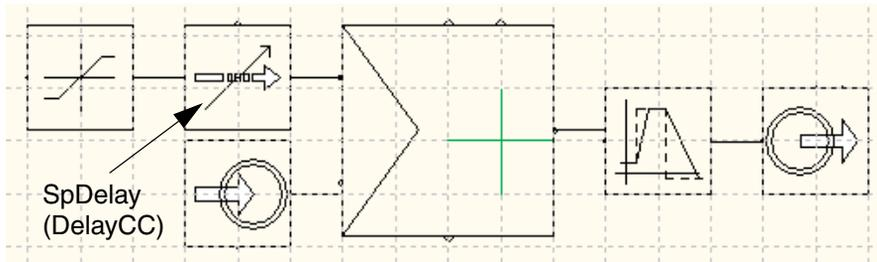

Figure 113. The result in of the new control solution in CMD editor
10. Create an instance of DelayCC type (ControlExtendedLib) with instance name SpDelay and add it between the SpLim and Pid control modules. Make sure that the graphical connections are correct. See Figure 113.